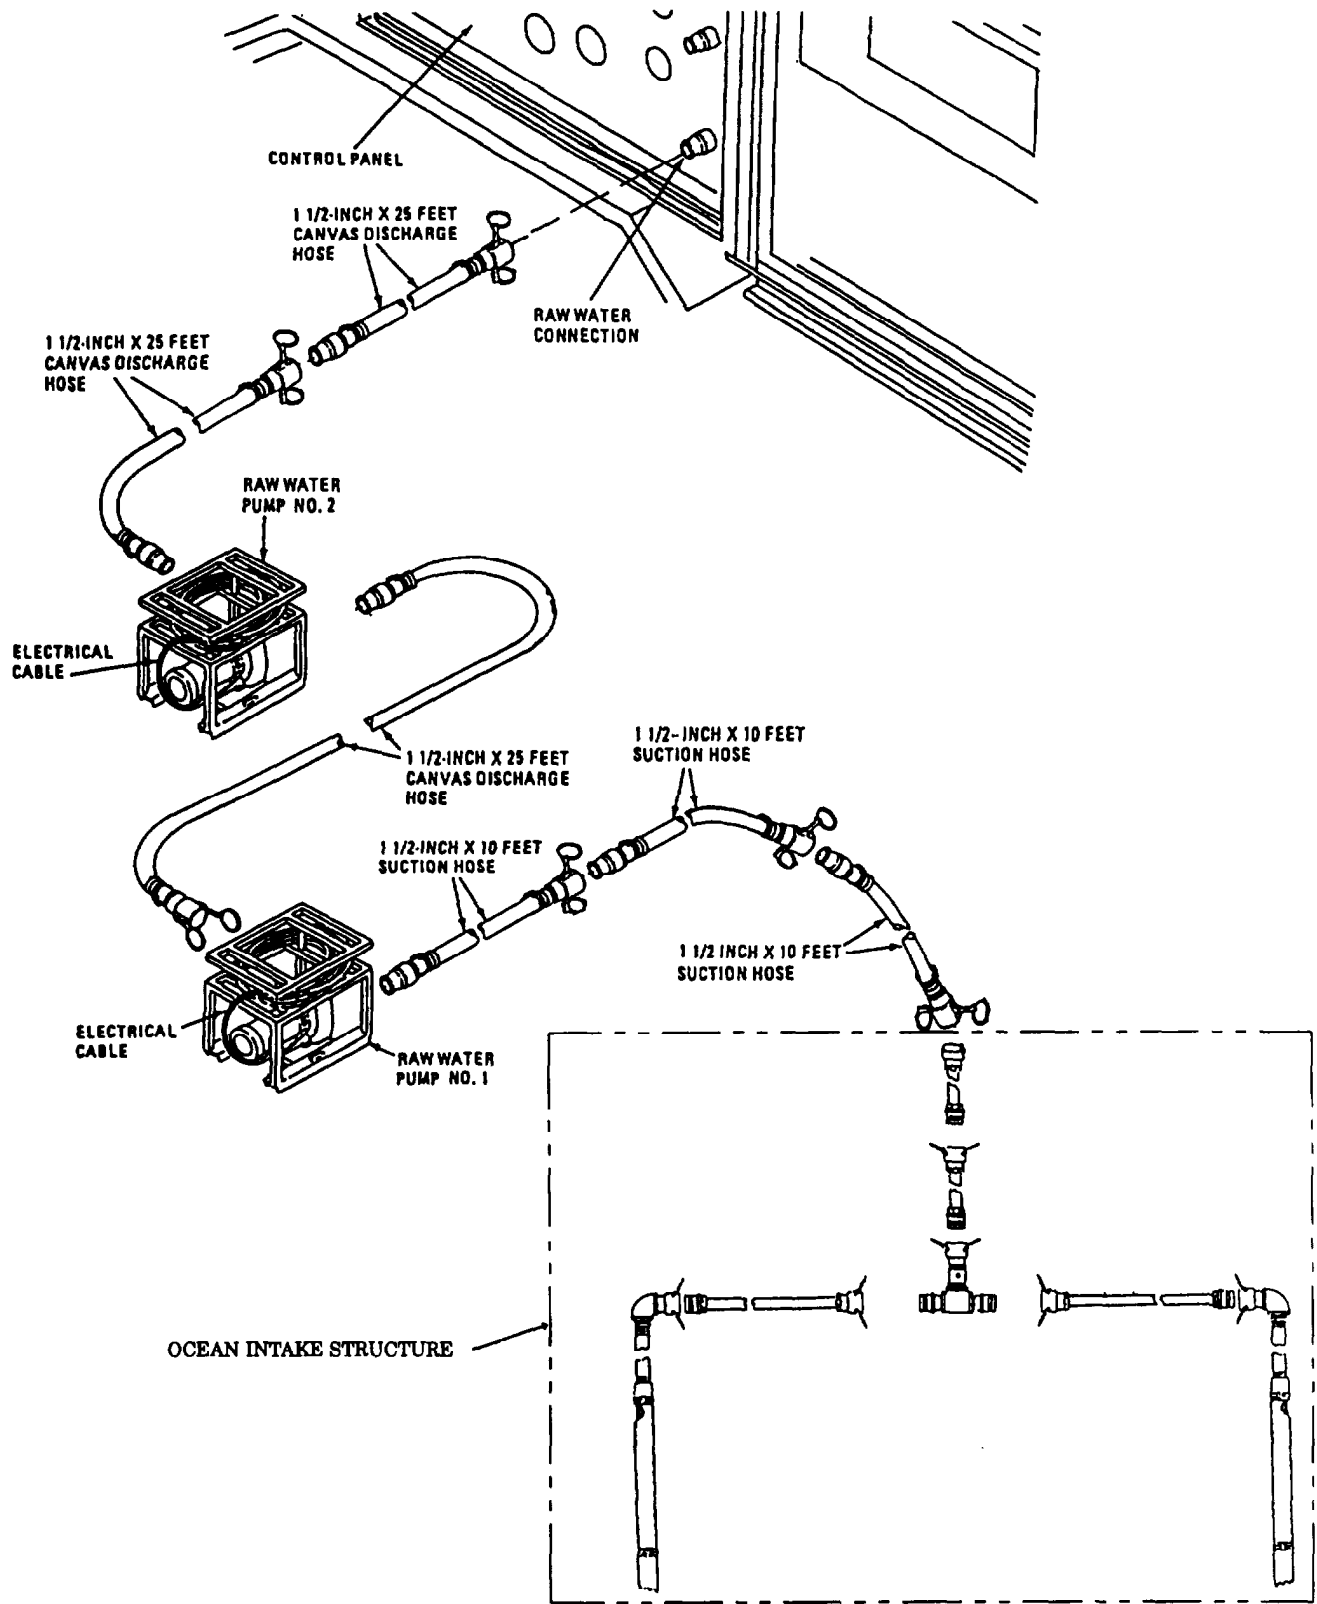

Figure 2-36b. Setup of Raw Water System Using Ocean Intake Structure.
- (28) Remove cap from tee assembly.
- (29) Remove the 10-foot length of 2-inch suction hose that is connected to the second wellpoint and attach it to the opposite end of the tee assembly.
- (30) Remove and store the hose from the outlet of raw water pump No. 1. Remove and store the quick disconnect fitting, the gate valve and pipe nipple.
- (31) Attach a 1-1/2" male quick disconnect fitting to the outlet of raw water pump No. 1.
- (32) Connect a canvas discharge hose from the discharge side of raw water pump No. 1 to raw water pump No. 2 which is already connected to the ROWPU (refer to figure 2-36b).